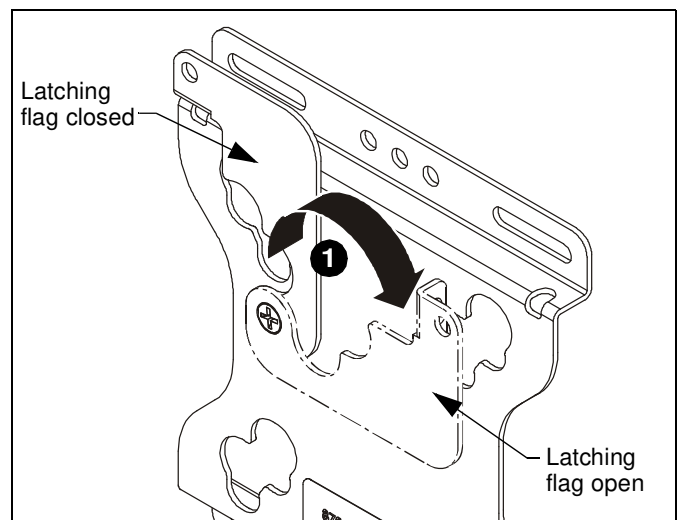

Figure 6
1. Open latching flag by rotating flag clockwise on FSR assembly (A). (See Figure 6)